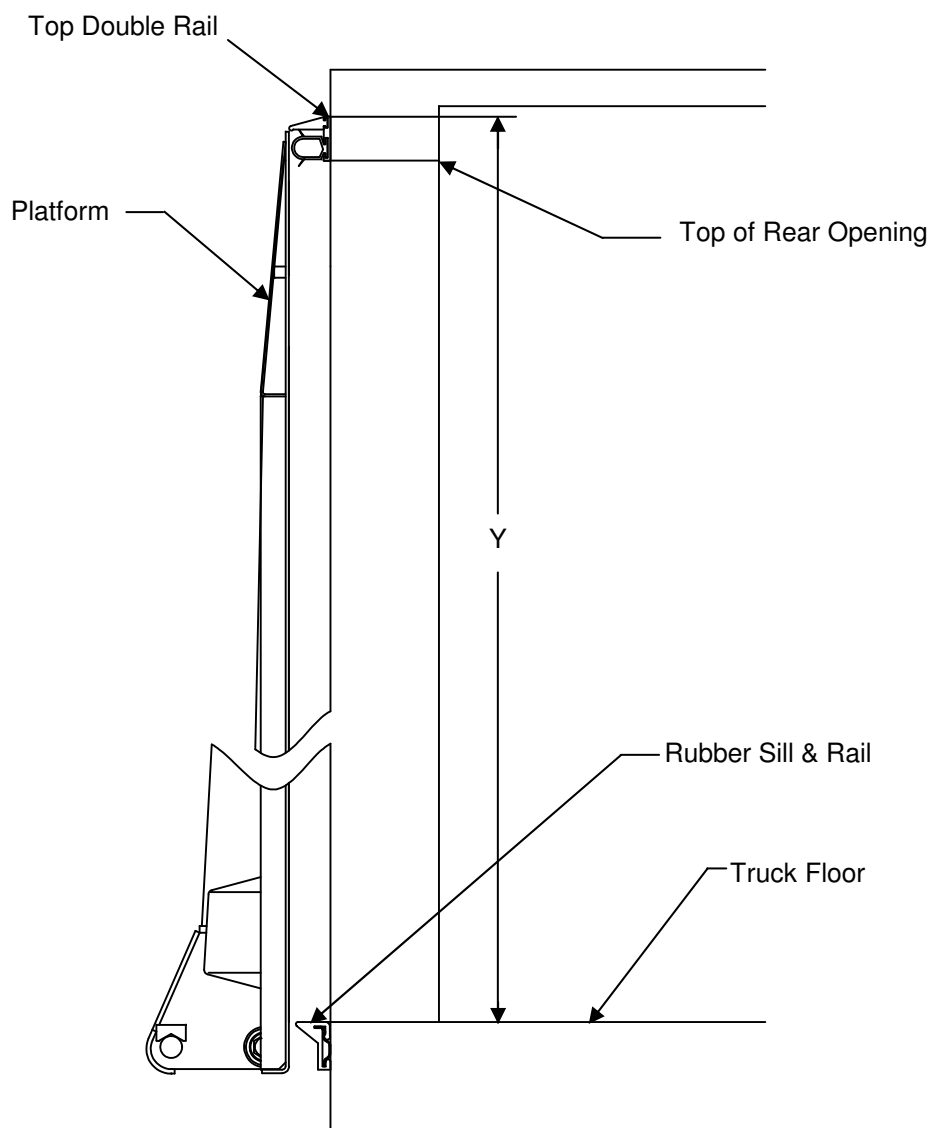

Fig.1
1. With the Platform in the stored position, find the location of the Top Double Rail according to Figure 1. Measure the distance from the vehicle floor to the top of the Top Double Rail and record the measurement as the 'Y' Dimension. Cut the Side Double Rails, Side Rubber Seals, and Side Air Foils to match the 'Y' Dimension.